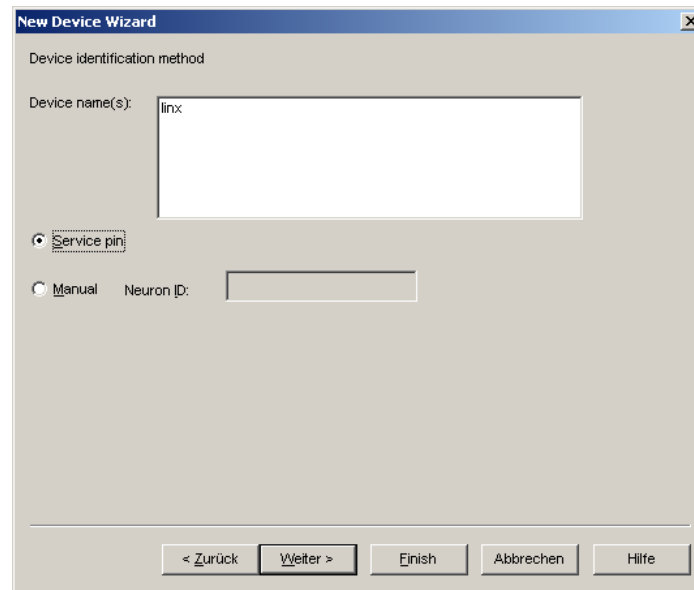

Figure 111: Use Service Pin.
6. Check Service Pin as the device identification method as shown in Figure 111 and click **Next**.